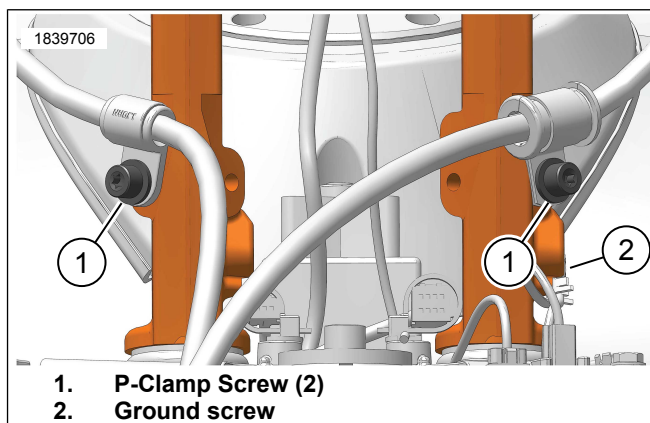
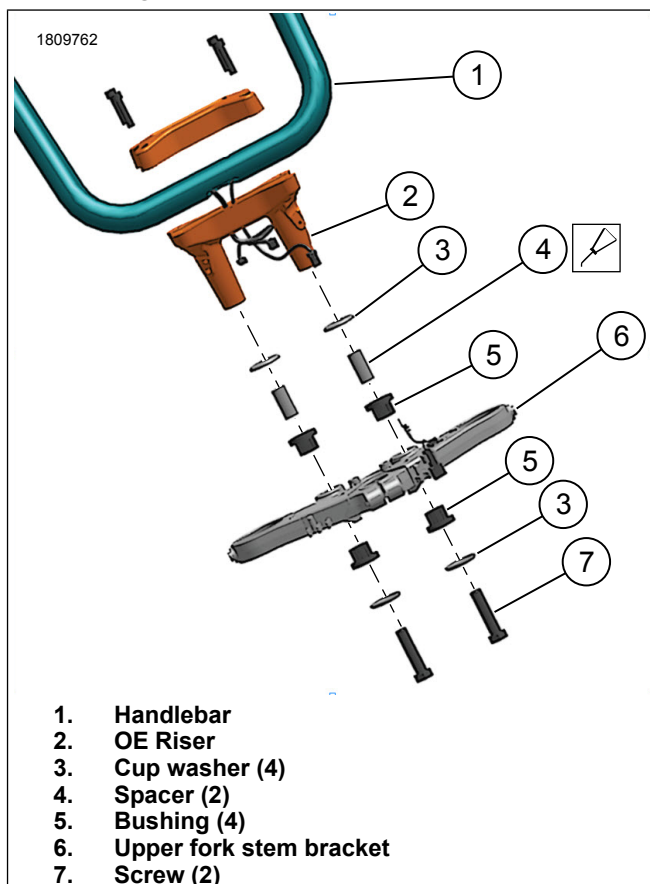

Figure 2. P-Clamp and Ground Screws
Figure 3. OE Handlebar Riser
2. Figure 2 Remove and retain screws.
- a. P-Clamp screw (1).
- b. Ground screw (2).
4. Figure 3 Disassemble riser assembly.
- a. Remove screws (7).
- b. Remove OE riser(s) (2).